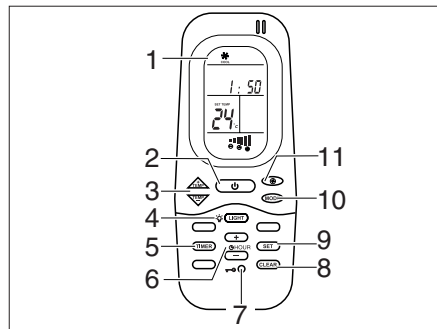

Fig. 112 Remote control
The air conditioning unit is located on the roof of the vehicle. The remote control (Fig. 112) for the air conditioning unit is located in the kitchen area.
- ▶ To switch on, press the on/off switch (Fig. 112,2) on the remote control.
- ▶ Set the desired operating mode using the MODE button (Fig. 112,10).
- ▶ If necessary, set the desired fan level by using the button (Fig. 112,11) and the room temperature by using the buttons (Fig. 112,4).
- ▶ To switch off, press the On/Off switch (Fig. 112,2) on the remote control again.
- ▶ To carry out programming, switch on the air conditioning unit with the On/off switch (Fig. 112,2) on the remote control.
- ▶ Press the TIMER button (Fig. 112,5). The ON indicator for the Start time is activated.
- ▶ Set the time with the TEMP (+/-) buttons (Fig. 112,3).
- ▶ Press the TIMER button (Fig. 112,5) again. The OFF indicator for the Start time is activated.
- ▶ Press the TIMER button (Fig. 112,5) again.
- ▶ Upon completing the setting, press the SET button (Fig. 112,9).
- ▶ Press the CLEAR button (Fig. 112,8) to delete the timer programming.